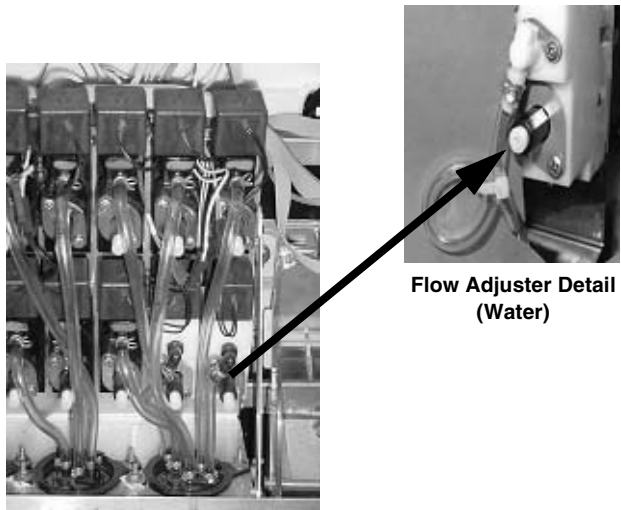

FIGURE 2. Valve with Flow Adjusters
4. If necessary, adjust the water flow control (see FIGURE 2), empty ratio cup, and repeat step 3. Otherwise empty ratio cup and repeat step 3 using the right program button for plain water.